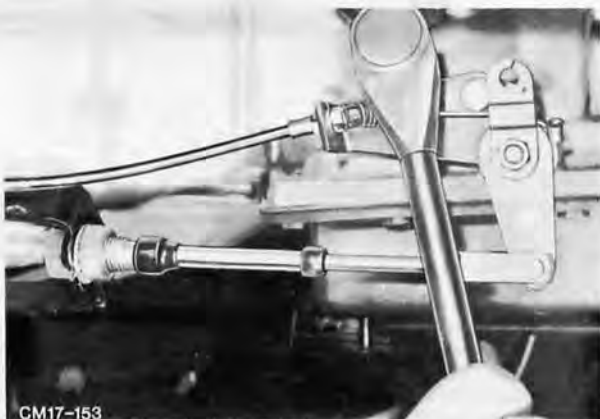

Fig. 11. Brake band adjustment
3. Screw in the adjusting screw using the Tool 17-005, Fig. 11, until the torque wrench disengages.